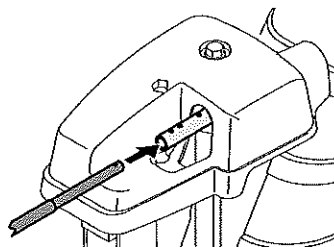

Figure 2-29
2. Insert round end of chute control rod into chute control head. Push rod as far into chute control head as possible, keeping holes in rod pointing upward. See Figure 2-29.